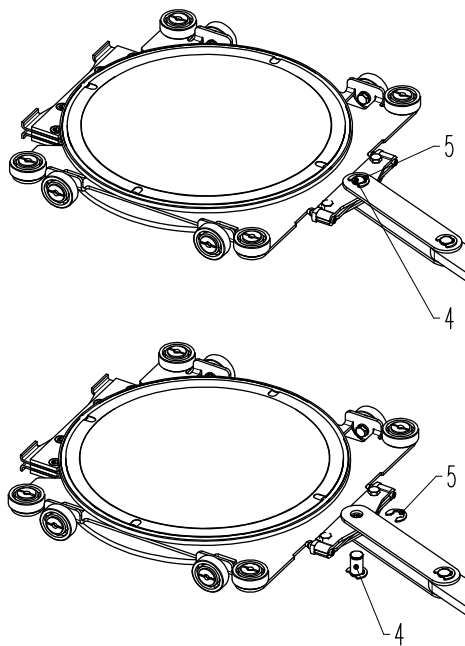

Figure 6-3
7. Remove locking ring (5) according to «Figure 6-3» on page 16.
8. Withdraw bolt (4) by pulling it downwards according to «Figure 6-3» on page 16.
11. Mount bolt (4) according to «Figure 6-3» on page 16.
12. Mount locking ring (5) according to «Figure 6-3» on page 16.